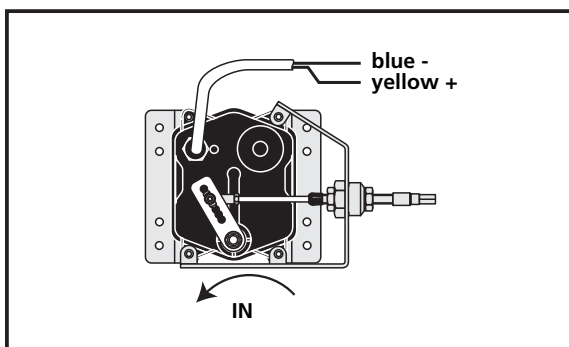
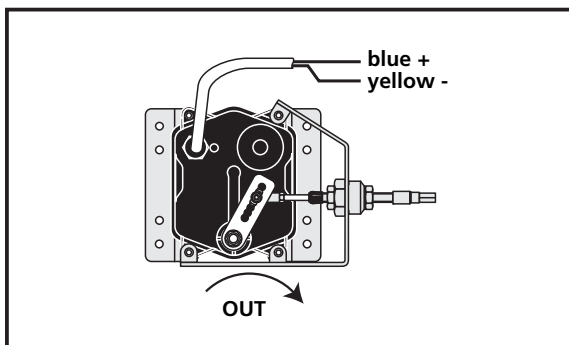

Figure 3.11 Actuator IN
Figure 3.12 Actuator OUT
1. Connect the actuator to a suitable power supply (Figure 3.11 and Figure 3.12).
Wiring the actuator in a specific must set the initial position of the lever way (see Figure 3.11 and Figure 3.12).